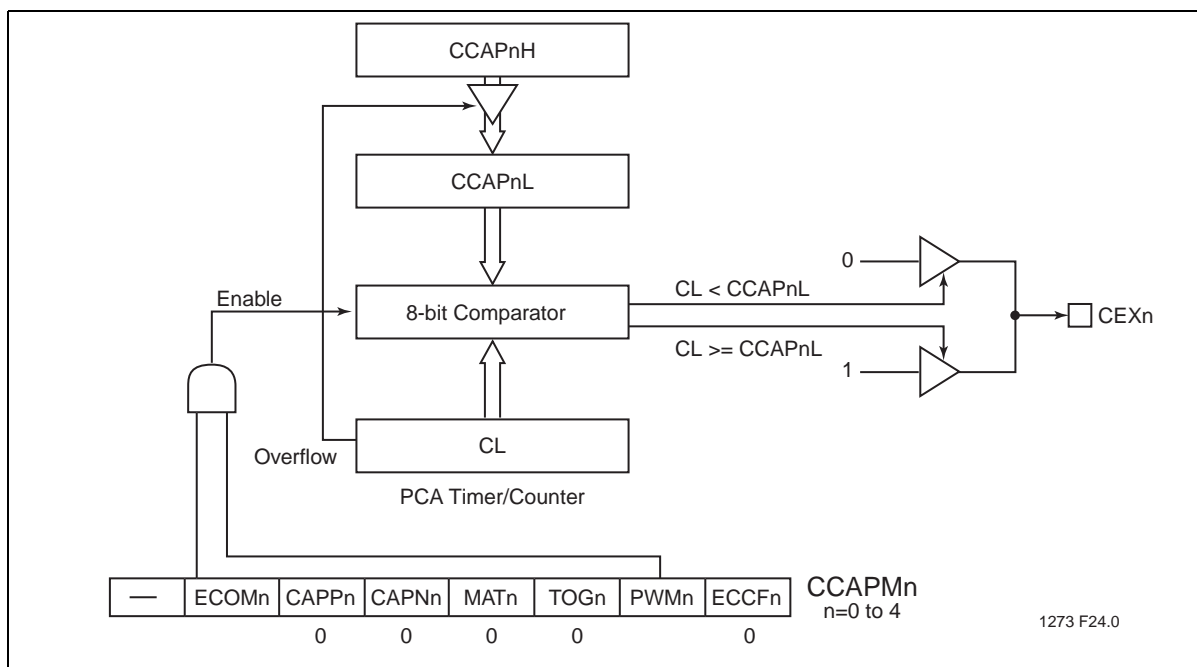

Figure 28:PCA Pulse Width Modulator Mode
The Pulse Width Modulator (PWM) mode is used to generate 8-bit PWMs by comparing the low byte of the PCA timer (CL) with the low byte of the compare register (CCAPnL). When $CL < CCAPnL$ the output is low. When $CL \geq CCAPnL$ the output is high. To activate this mode, the user must set the PWM and ECOM bits in the module's CCAPMn SFR. (See Figure 28 and Table 24)